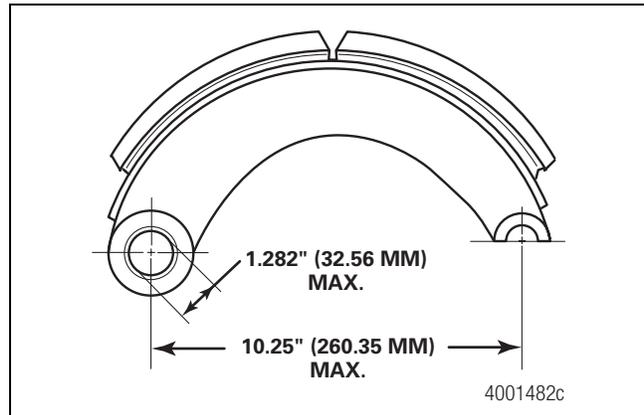

Figure 5.10
- The anchor pin holes must not exceed 1.282-inches (32.56 mm) in diameter. Figure 5.10.
- With the roller and anchor pin installed, measure the distance from the center of the anchor pin hole to the center of the roller slot. Figure 5.10. The distance must not exceed 10.25-inches (260.35 mm). Replace any brake shoes that do not meet measurement specifications.